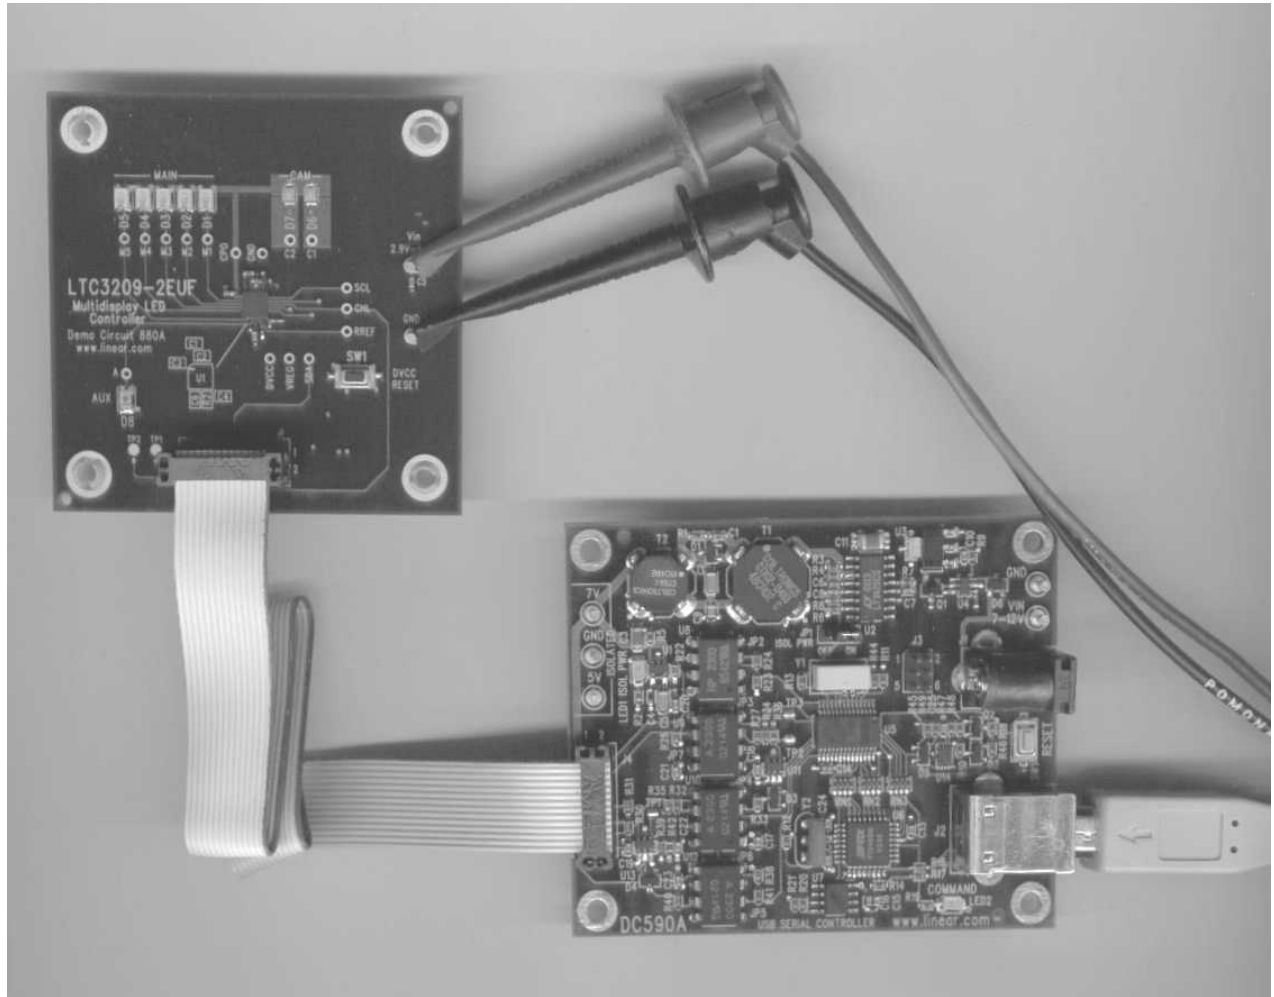

Figure 1. Proper Serial Interface Connection for DC880 and DC881 (DC880 shown)
1. Connect DC880 or DC881 to the DC590 USB Serial Controller using the supplied 14-conductor ribbon cable as shown in Figure 1. Refer to the DC590 Quick Start guide for software installation details.